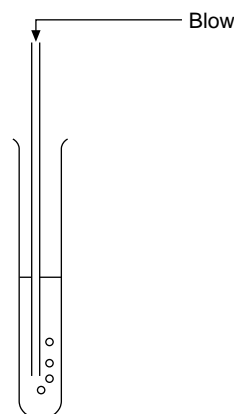

Fig 6
5. Gently blow into your clear solution with a straw, *Figure 6*. Do not suck! Describe what you see.